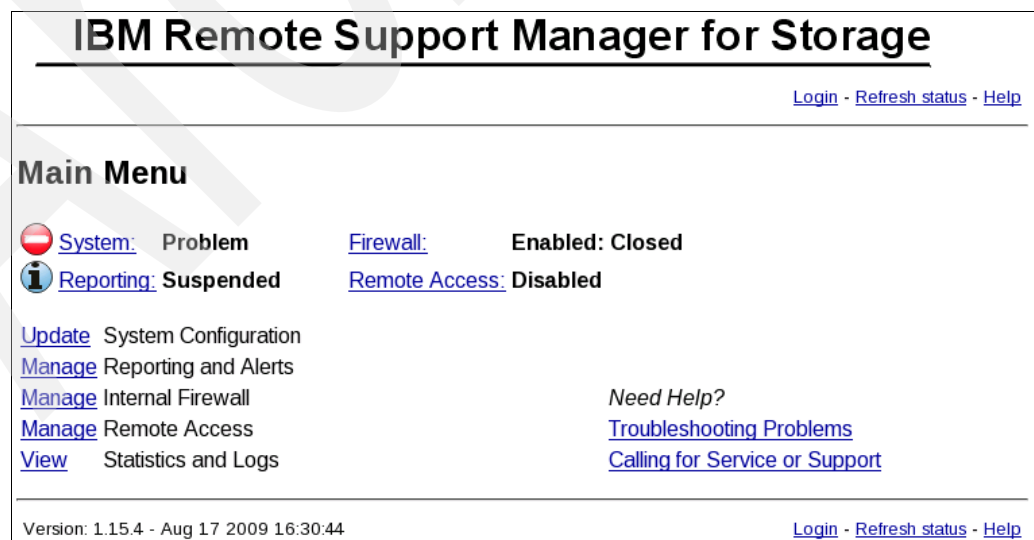

Figure 6-8 RSM administration window
- c. Click the Manage icon to open a Web browser that shows the main administration window, as shown in Figure 6-8. Click **Login**.